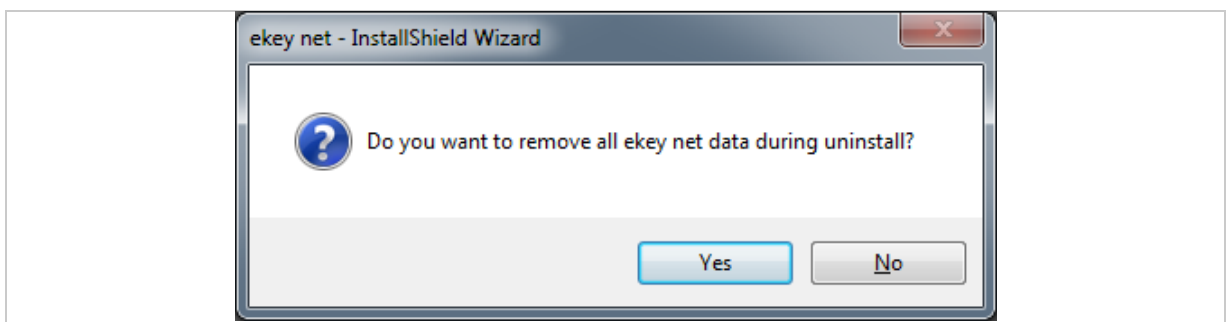

Fig. 13: Uninstallation dialog: Removing ekey net data
3.	You can now choose to delete all data generated by the ekey net system (see "Fig. 13: Uninstallation dialog: Removing ekey net data", page 24). Select No if you wish to archive your ekey net data.